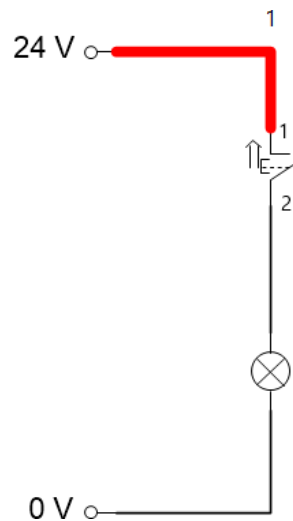

Figure 2.19: A NOT logic circuit using an NC pushbutton. The light P1 is ON by default and turns OFF only when S1 is pressed.
**3. The NOT Function (Normally Closed Contact)** The NOT function is a logic inverter. It makes the output the **opposite** of the input. If the input is true (ON), the output is false (OFF). If the input is false (OFF), the output is true (ON).
**Implementation with a Normally Closed (NC) Contact** We create a NOT function using a **Normally Closed (NC)** switch or relay contact. By its nature, an NC contact allows current to pass when its input (the button or coil) is **NOT** activated.
**Example: Power ON Indicator Light** Consider a machine's main power switch (S1). We want a green light (P1) to be ON to show that the machine has power, but the machine is **NOT** currently running. When we press the start button (S1), we want the light to turn OFF. The circuit is shown in Figure 2.19.